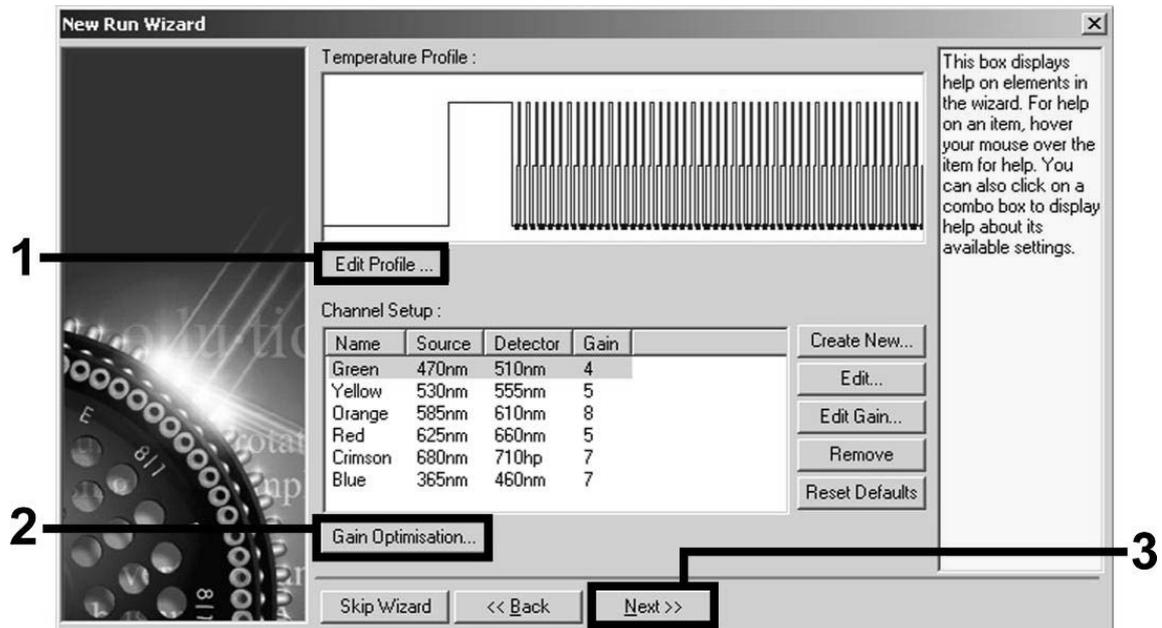
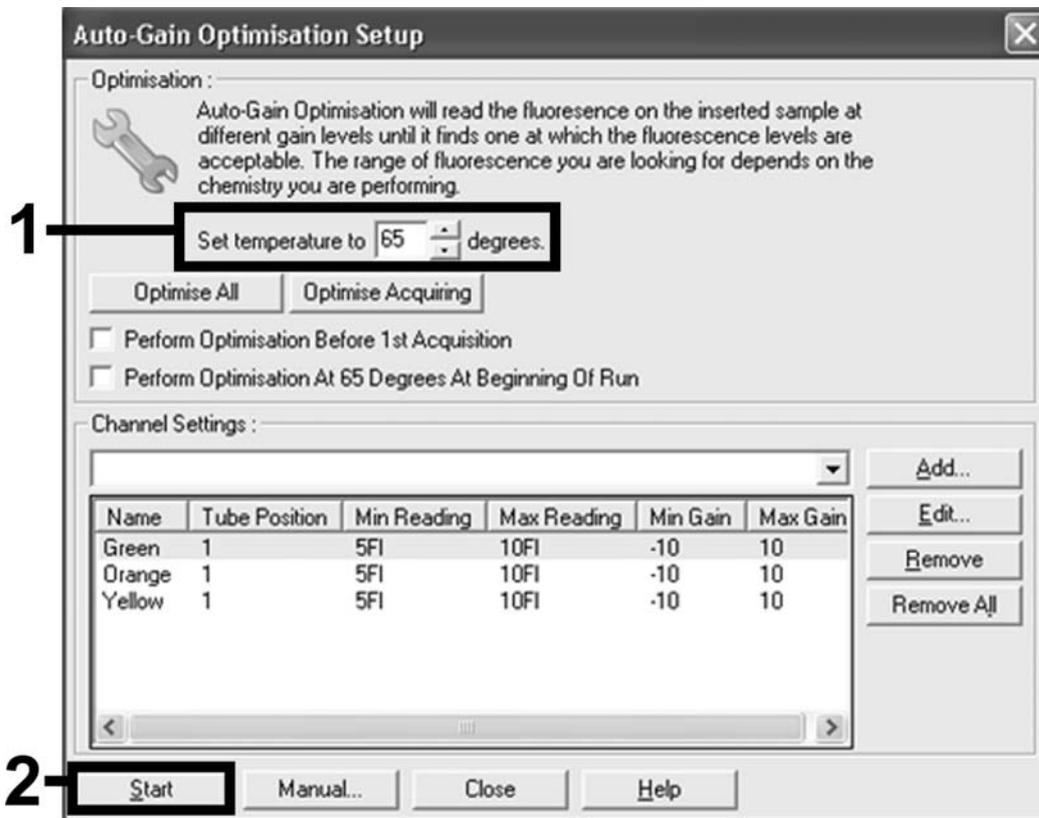

Figure 7. Editing the profile.
Figure 10. Adjusting the fluorescence channel sensitivity.
Adjusting the fluorescence channel sensitivity	Figure 10
- Click the “Edit Profile” button in the next “New Run Wizard” dialog box (Figure 7), and program the temperature profile as shown in Figures 7–9).
7. The detection range of the fluorescence channels has to be determined according to the fluorescence intensities in the PCR tubes. Click "Gain Optimisation" in the "New Run Wizard" dialog box (see Figure 7) to open the "Auto-Gain Optimisation Setup" dialog box. Set the calibration temperature to 65 to match the annealing temperature of the amplification program (Figure 10). Make sure that all three channels (Green, Orange, and Yellow) are selected for "Auto-Gain Optimisation". (Find channels in the drop down menu under "Channel Settings" and click "Add".) Click "Start" to begin the gain optimization. Click "Close" of the "Auto-Gain Optimisation Setup" dialog box when the gain calibration is completed.